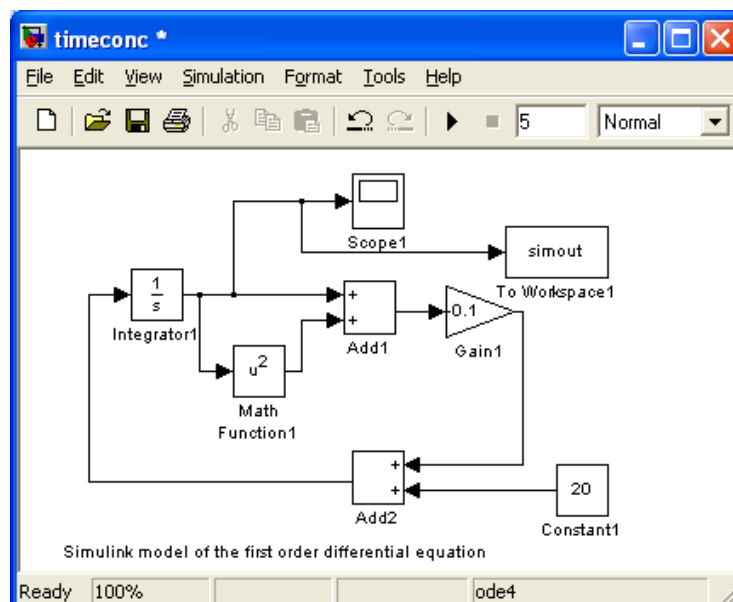

Figure 4: Simulink model of the equation (1)
After making the necessary connections, the Simulink model for the equation (1) will be as in the Figure 4.